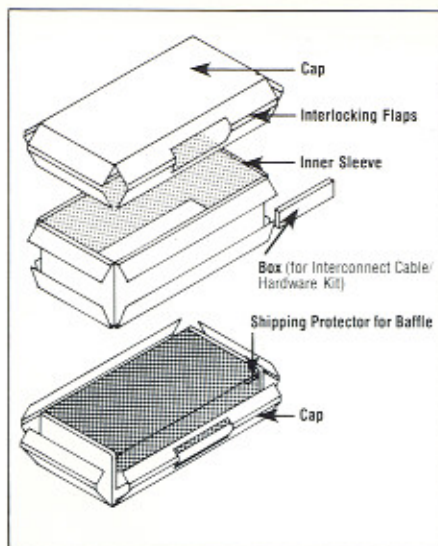

FIGURE 1a. Shipping Carton (exploded view)
- E. Refer to figure 1a. The carton consists of three pieces: two "caps" and one "sleeve" which interlocks with the caps. Remove the top cap by disengaging the interlocking flaps from the sleeve and lifting it clear of the sleeve; set it aside. Now, disengage the sleeve from the interlocking flaps on the bottom cap and carefully slide the sleeve up and off the cabinet.